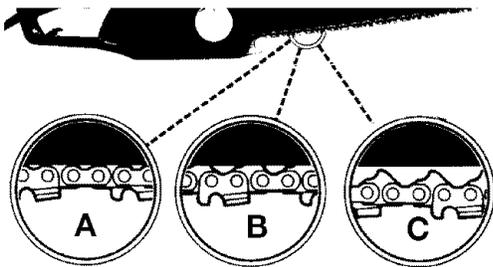

Fig. 22
NOTE: A new chain and bar will need readjustment after as few as 5 cuts. This is normal during the break-in period, and the interval between future adjustments will lengthen quickly (Fig. 22).
CAUTION: If saw chain is TOO LOOSE or TOO TIGHT, the sprocket, bar, chain, and crankshaft bearings will wear more rapidly. Study Fig. 22 for information concerning correct cold tension (A), correct warm tension (B), and as a guide for when saw chain needs adjustment (C).